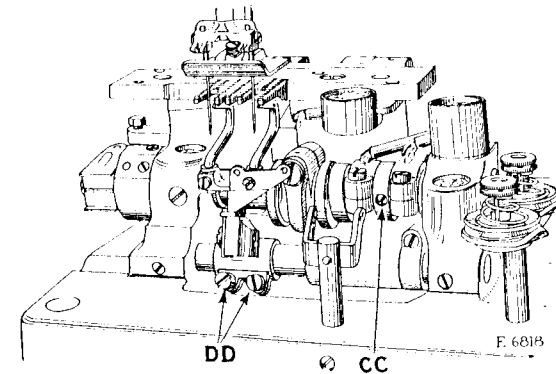

FIG. 7. ADJUSTMENTS ON THE MACHINE
$\frac{9}{64}$ inch. To set the points of the loopers the correct distance from the centre of the needles, loosen the two screws (DD, Fig. 7) and move the looper holder bracket as required, then securely tighten the two screws (DD).
The needle avoiding motion of the loopers should be timed so that the loopers will pass as close to the needles as possible, on their forward and backward strokes, without touching the needles. To make this adjustment, loosen the three screws in the needle avoiding eccentric (CC, Fig. 7) and turn the eccentric in the required direction, after which securely tighten the three screws.